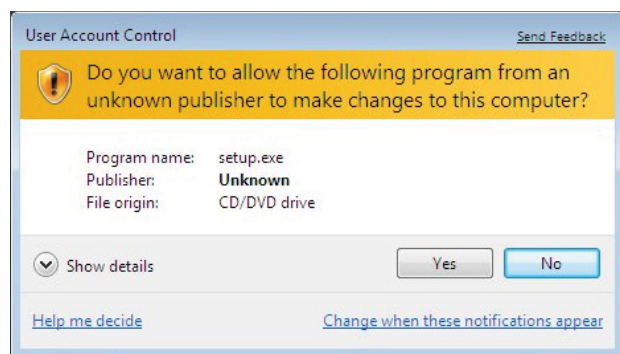

Figure 3. **AD7172-4 User Account Control** Permission Dialog Box
3. A dialogue box appears asking for permission to allow the program to make changes to the PC (See Figure 3). Click **yes**.